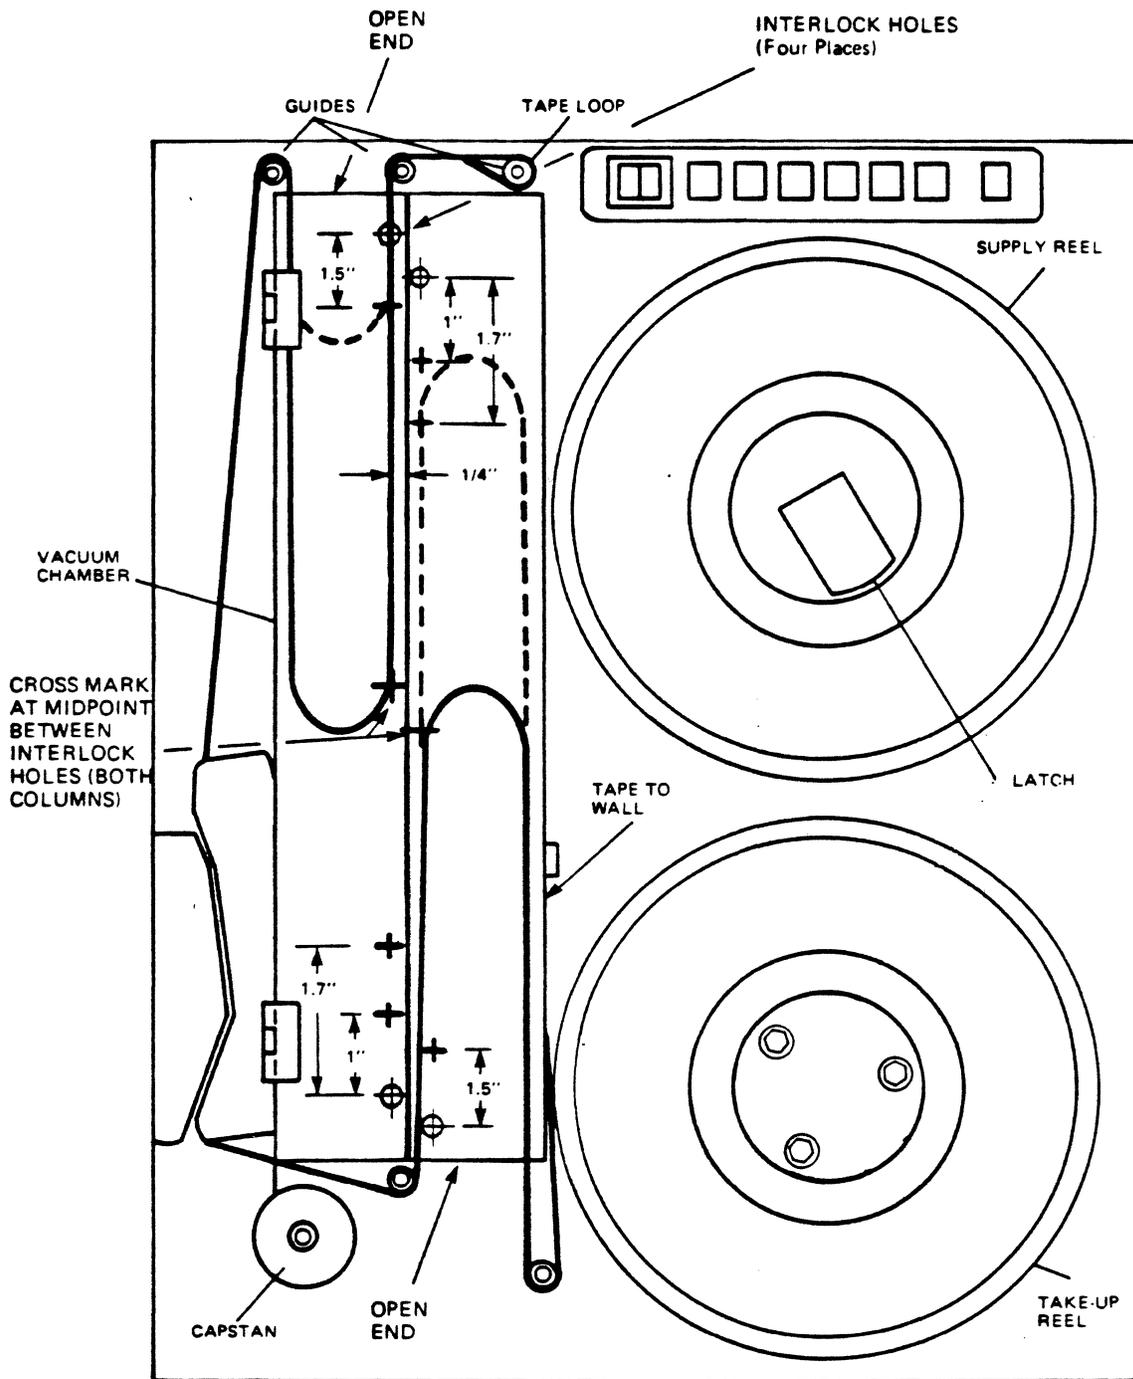

Figure 5-3. Tape Loop for Vacuum Column Servo Adjustment
- b. Load a loop of tape in the vacuum column as shown in figure 5-3, and mark the vacuum column window as shown.